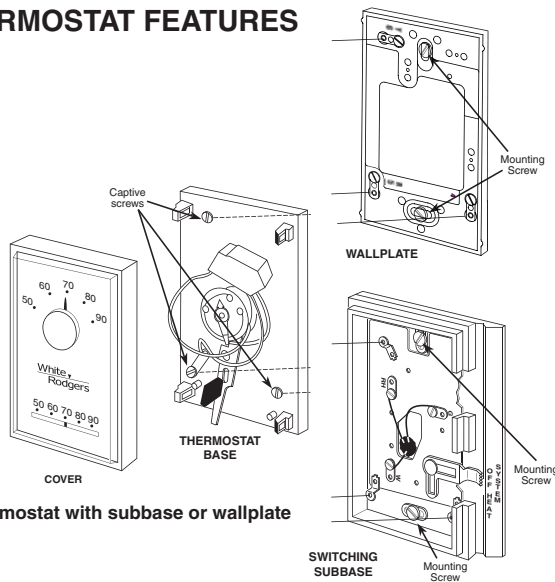

Figure 1. Thermostat with subbase or wallplate
- Mount switching subbase or wallplate:** Use the screws provided to mount the subbase or wallplate to wall (see Fig. 1).
- Mount Thermostat Base:** Gently push excess wire back into the wall opening and plug hole with a fire-resistant material, such as fiberglass insulation to prevent drafts from affecting thermostat operation. Mount the thermostat base to the subbase or wallplate using the three captive screws on the thermostat base. (See Fig. 1) Tighten the screws securely. Proceed to Step #5.